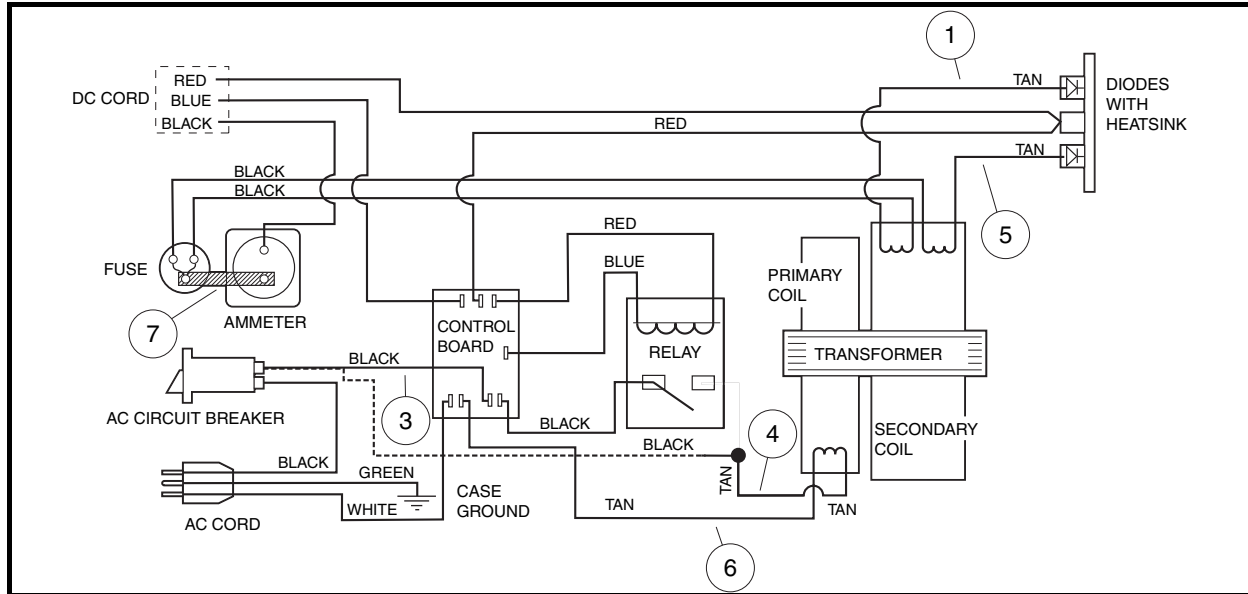
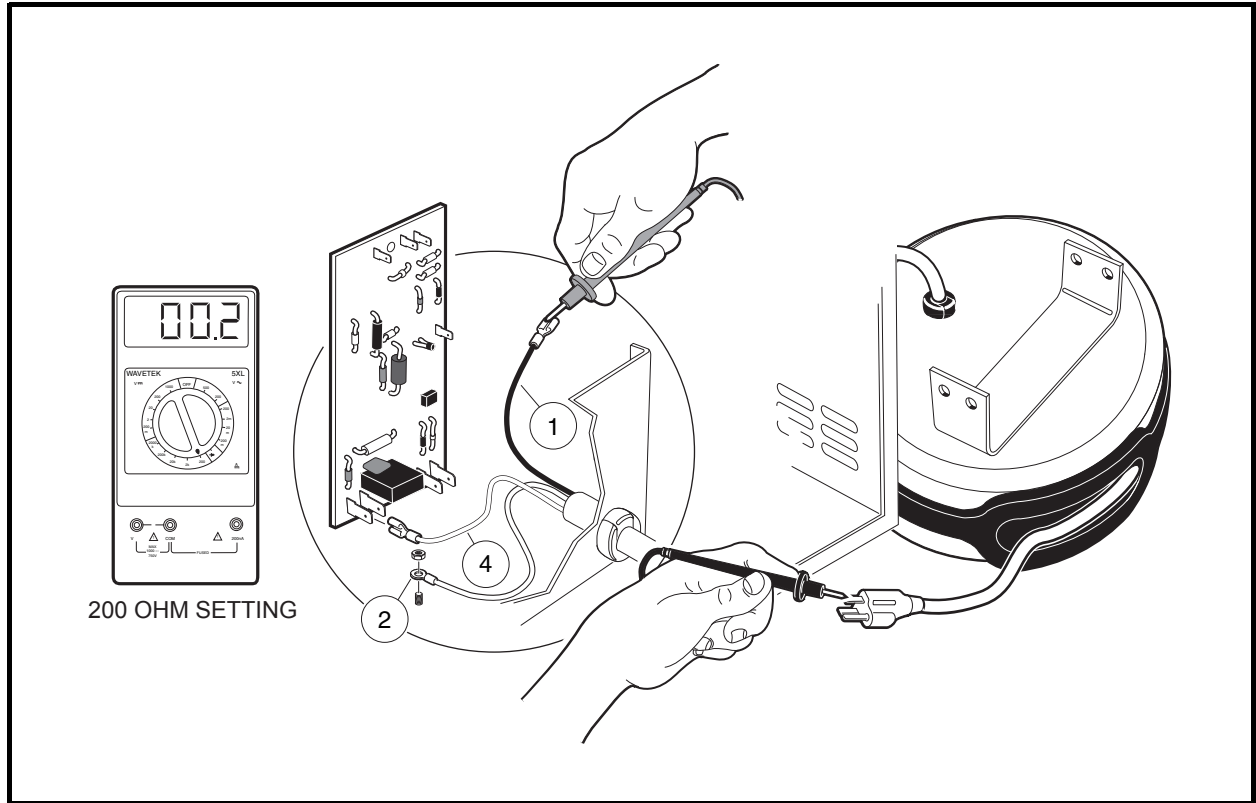

Figure 4-17 Transformer Test Wiring Diagram
Figure 4-18 AC Cord and Retractable Cord Reel Continuity Test
- 5.3.1. To bypass the relay, remove the black wire (3) from the AC circuit breaker and disconnect the black wire (4) from the relay. Connect the black wire (4) to the AC circuit breaker (**Figure 4-17, Page 4-18**).
6. If the circuit is not complete, check the wiring of the AC cord, AC cord reel, transformer primary coil wires, and internal AC circuit breaker (**Figure 4-17, Page 4-18**).
4. Using a continuity tester (CC P/N 1011273) or multimeter set to 200 ohms, connect the test probes to the charger DC cord black wire and red wire terminals in the three pin connector (**Figure 4-17, Page 4-18**). Note the reading.
4. Disconnect transformer secondary coil wires (1 and 5) from the heatsink (**Figure 4-17, Page 4-18**).
- 5.1. To bypass the relay, remove the black wire (3) from the AC circuit breaker and disconnect the black wire (4) from the relay. Connect the black wire (4) to the AC circuit breaker (**Figure 4-17, Page 4-18**). **See following DANGER.**
10. Connect the AC cord to the wall outlet and monitor the multimeter for the secondary coil voltage. If measured voltage is approximately 85 volts AC or lower for the secondary coil, the transformer is shorted internally and must be replaced (**Figure 4-17, Page 4-18**).
4. Disconnect the green wire (2) from charger case and position it so it does not touch any metal part of the charger (**Figure 4-18, Page 4-20**).
5. Disconnect the black wire (1) of the short AC cord from charger AC circuit breaker.
6. Disconnect the AC cord white wire (4) from the control board (**Figure 4-17, Page 4-18**).
7. Using a multimeter set for 200 ohms, place the red (+) probe on the terminal at the end of the black wire (1) (**Figure 4-18, Page 4-20**). With the black (-) probe, test for continuity on each of the flat blades and then on the round pin of the AC plug (on the retractable cord reel). The tester should indicate continuity on one flat blade only. If any other reading is obtained, the short AC cord and retractable cord reel must be tested independently of each other.
8. Place the red (+) probe on the end of the green wire (2) and with the black probe check for continuity on both flat blades and on the round pin of the AC plug (on the retractable cord reel) (**Figure 4-18, Page 4-20**). The tester should indicate continuity on only the round pin. If any other reading is obtained, the short AC cord and retractable cord reel must be tested independently of each other.
9. Place the red (+) probe on the white wire (4) and check for continuity on both flat blades and on the ground pin of the AC plug (on the retractable cord reel). The tester should indicate continuity on only one flat blade. If any other reading is obtained, the short AC cord and retractable cord reel must be tested independently of each other.
The PowerDrive battery charger transformer has two sets of coils: a primary coil and a secondary coil (**Figure 4-17, Page 4-18**).
3. Disconnect terminals from transformer (tan) primary coil transformer wires (4 and 6) (**Figure 4-17, Page 4-18**).
3. Remove the transformer (tan) secondary coil wire (1) from the upper terminal of the heatsink (**Figure 4-17, Page 4-18**).
4. Remove the other transformer (tan) secondary coil wire (5) from the bottom terminal of the heatsink and place the continuity test clip on the ammeter buss bar (7) (**Figure 4-17, Page 4-18**). Test for continuity between the buss bar and each of the secondary coil wires (tan). The tester should indicate continuity between the buss bar and both of the secondary coil wires. If tester does not indicate continuity on both secondary coil wires, replace transformer. Ensure that the fuse is intact and not blown.
3. Remove black wires from contact terminals of the relay (**Figure 4-17, Page 4-18**). Place continuity test probes on contact terminals of the relay. The tester should indicate no continuity. If tester indicates continuity, the relay contacts have failed closed and the relay must be replaced.